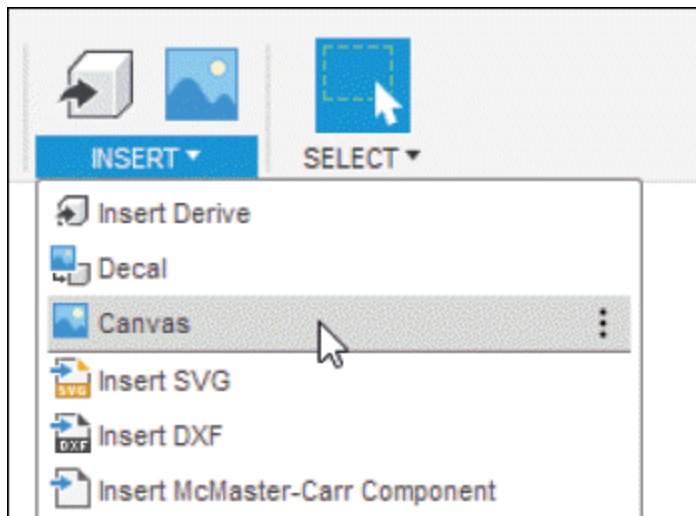

Figure-11. Canvas tool
- Click on the **Canvas** tool of **INSERT** drop-down from **Toolbar**; refer to Figure-11. The **Insert** dialog box will be displayed.